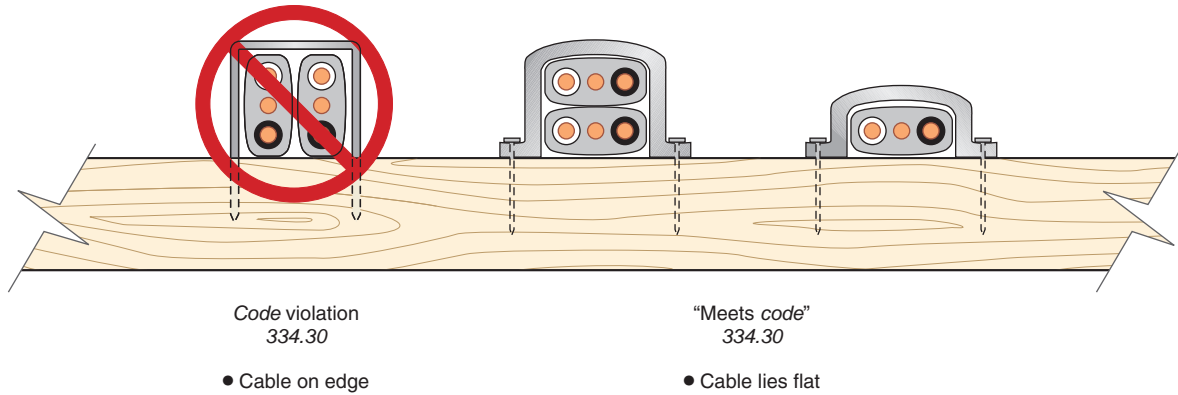

FIGURE 4-15 It is a Code violation to staple flat nonmetallic-sheathed cables on edge, 334.30. (Delmar/Cengage Learning)
- Do not staple flat nonmetallic-sheathed cables on edge, Figure 4-15.